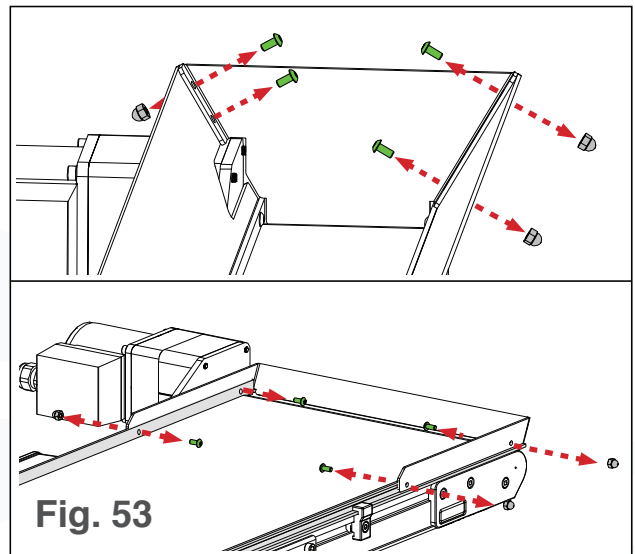

Fig. 53
3. Using a  $\frac{3}{32}$ " hex key and a  $\frac{5}{16}$ " wrench, remove the four bolts securing the end flare/plate to the rest of the conveyor (see Fig. 53).
7. Using a 4mm hex key, loosen the two inner tensioning head plate bolts on both sides of the conveyor (see Fig. 53).